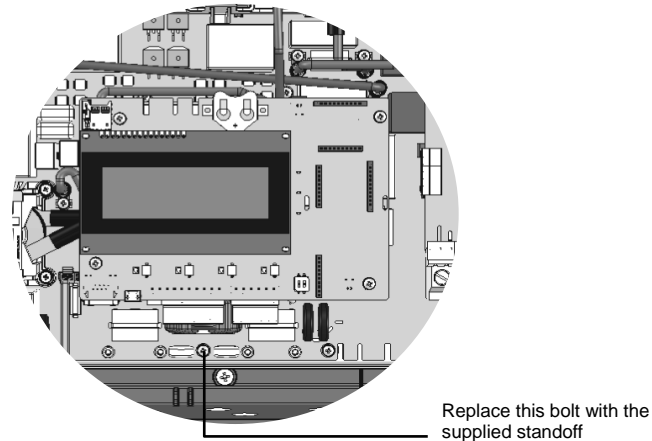

Figure 3: Bolt that connects the power board to the chassis
- 5 Replace the middle bolt that connects the power board to the chassis with the standoff supplied with the kit (see Figure 3).